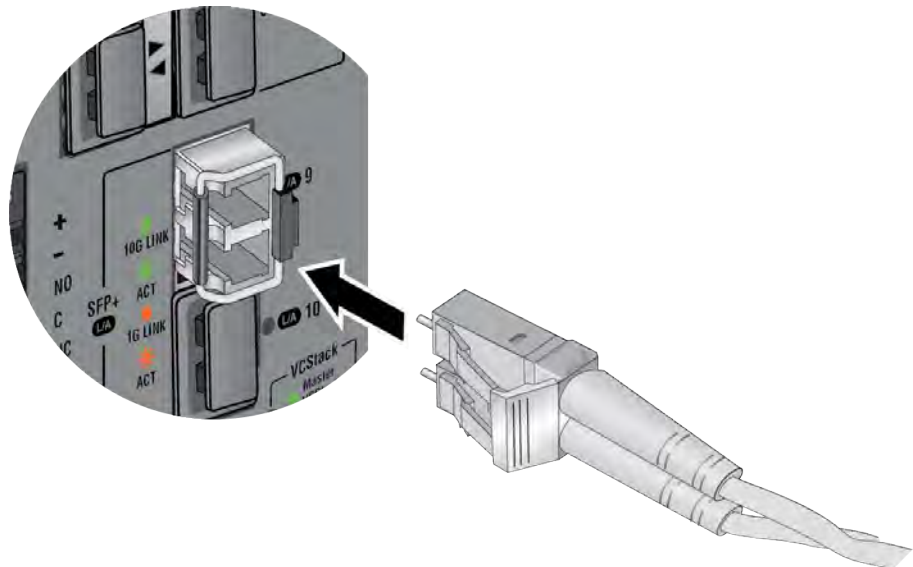

Figure 42. Connecting a Fiber Optic Cable to a Transceiver
5. Connect the fiber optic cable to the transceiver. The connector on the cable should fit snugly into the port, and the tab should lock the connector into place. Refer to Figure 42.